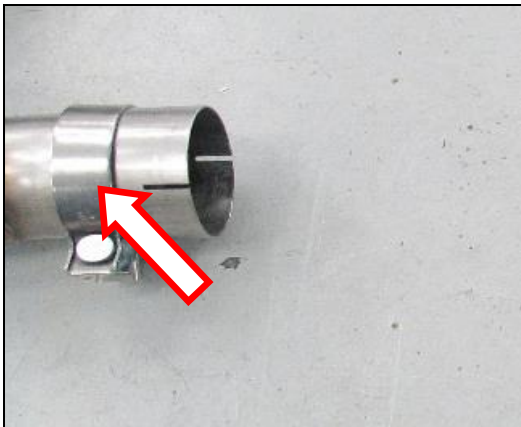

**Figure 6**
1. Remove the OE hangers and exhaust valve off the OE muffler and transfer to the Hooker Blackheart muffler (**Figure 6**).